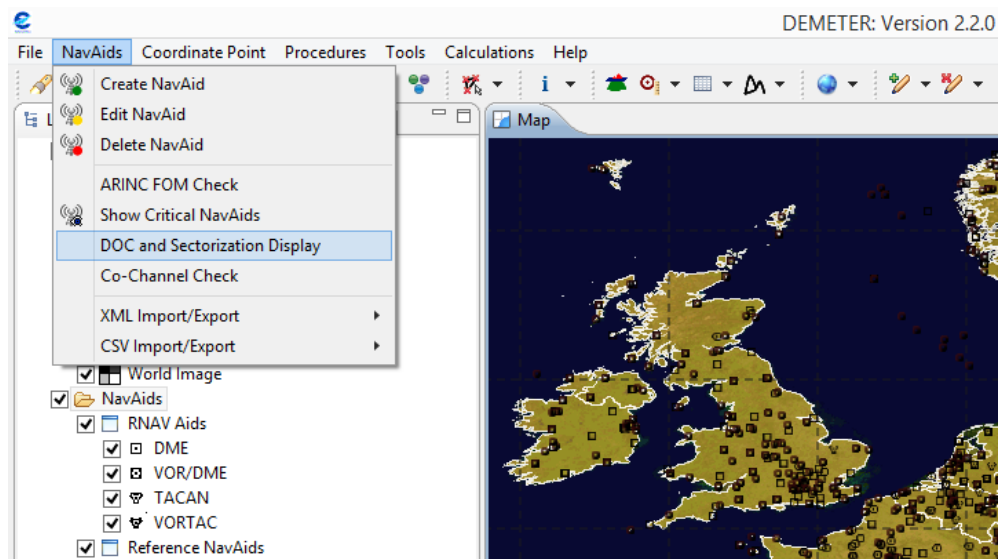

Figure 84: DOC and Sectorization Display menu
2. Select the "NavAids -> DOC and Sectorization Display" menu (Figure 84).